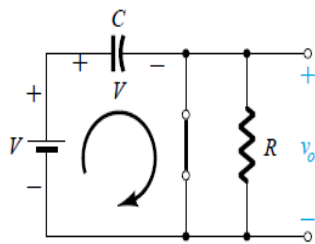

Fig: 34
- During the interval $0 < t < T/2$ the network will appear as shown in Fig. 34 With the diode in the “on” state effectively “shorting out” the effect of the resistor R . When the input switches to the $-V$ state the network will appear with